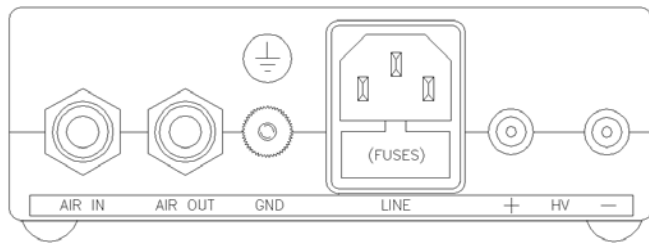

Figure 1 Power Supply Rear Panel
1. Remove the knurled thumb-nut from the ground post located on the rear panel of the AFC power supply chassis (see Figure 1). **Do not** remove the starlock washer.